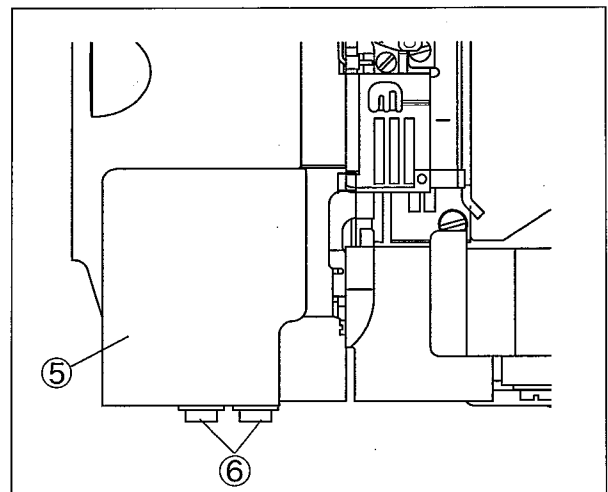
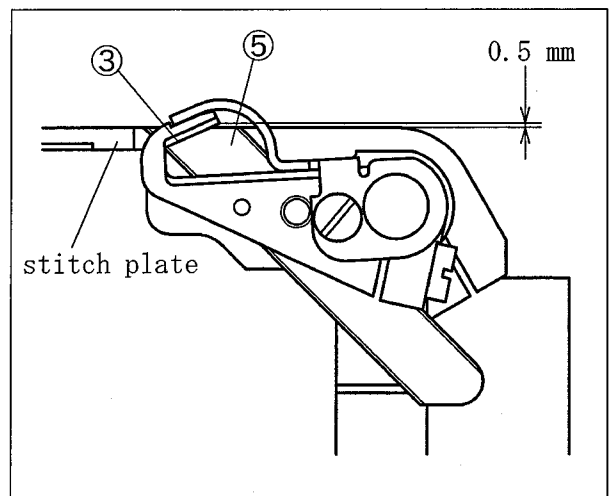

Fig. 75
Fig. 82
- (1) Loosen the screws ① to remove the bracket cover ② and the bracket cover gasket ③.
- (2) Loosen the nut ⑤ on the upper knife adjusting lever pin ④ to adjust it.
- (3) Tighten the nut ⑤ securely.
- (4) Loosen the screw ⑦ on the upper knife holder ⑥ to tighten it temporarily.
- (5) Rotate the handwheel manually to lower the upper knife ⑩ at the lowest point. Move the upper knife holder ⑥ to place the upper knife tip 0.5 mm above the top of the lower knife. Then, tighten the screw ⑦ securely. (See Fig. 82)
- (6) Loosen the screw ⑨ on the collar (left) ⑧. The upper knife ⑩ touches to the lower knife ⑪ with its spring.
- (7) Rotate the handwheel manually to check the sharpness of the blades by setting a thread between the upper knife ⑩ and the lower knife ⑪.
- (8) Set the top of the lower knife ⑪ 7.0 mm apart from the upper knife ⑩ tip (at the base of the blade). Then, tighten the screw ⑨ securely.
- (9) Recheck the knives cut properly.
- (10) Reset the bracket cover ② and the bracket cover gasket ③ with the screws ①.
- (1) Loosen the screws② on the suction pipe cover ①.
- (2) Move the suction pipe cover① at the extreme left.
- (3) Tighten the screws② temporarily.
- (4) Open the front cover③ and side cover④.
- (5) Loosen two screws⑥ on the knife drop collar⑤.
- (6) With an Allen wrench inserted in lower one of screws⑥, set the convex part of the knife drop collar⑤ on the concave part of the upper knife adjusting lever⑦ without clearance between them.
- (7) Tighten two screws⑥ securely.
- (8) Rotate the handwheel manually to lower the upper knife⑧ at the lowest point. Check the upper knife⑧ tip is 0.5 mm above the top of the lower knife⑨. (See Fig. 82)
- (9) Rotate the handwheel manually to check the sharpness of the blades by setting a thread between the upper knife⑧ and the lower knife ⑨.
- (10) Reset the front cover③ and the side cover④.
- (11) Loosen the screws②.
- (12) Align the right side of the suction pipe cover ① with the inlet of the suction pipe(front)⑩ in on line. (See Fig. 75)
- (13) Tighten the screws② securely.